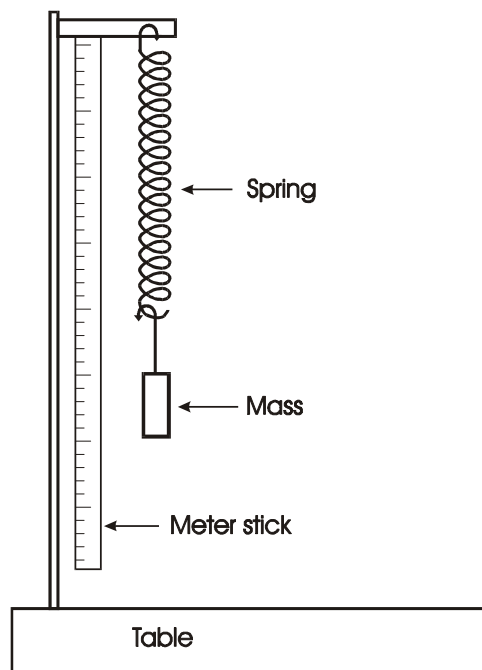

Figure 9.2 – Simple harmonic oscillation.
Setup: A schematic diagram of the experimental setup is shown in Figure 9-2. Here the motion of the mass on the spring is up and down on a straight line.
1. Hang the spring with the larger end down as shown in Figure 9-2. Clamp down a meter stick vertically to monitor the position of the mass. Place a total of 100 gram mass at the end of the spring. Record the equilibrium position of the mass. This point will be your *reference point* ($x = 0$) from which you will measure how much the spring stretch. The reason you need to start with this much mass is to ensure that all of the spring coils are separated and not squeezing each other.